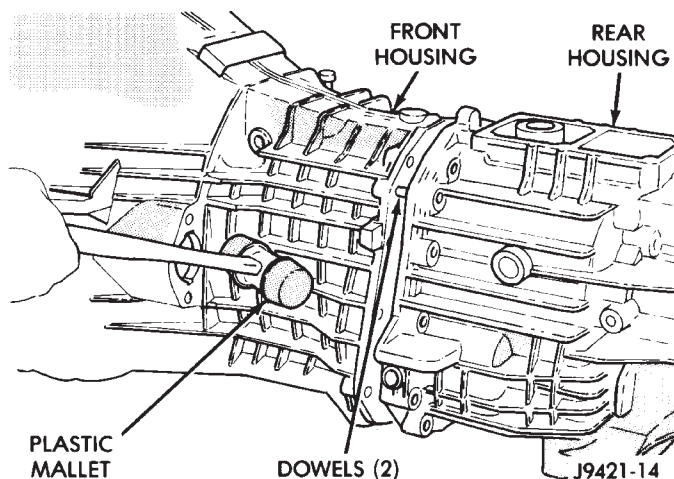

Fig. 17 Front Housing Removal
(14) Separate front housing from rear housing (Fig. 17). Use plastic mallet to tap front housing off alignment dowels.